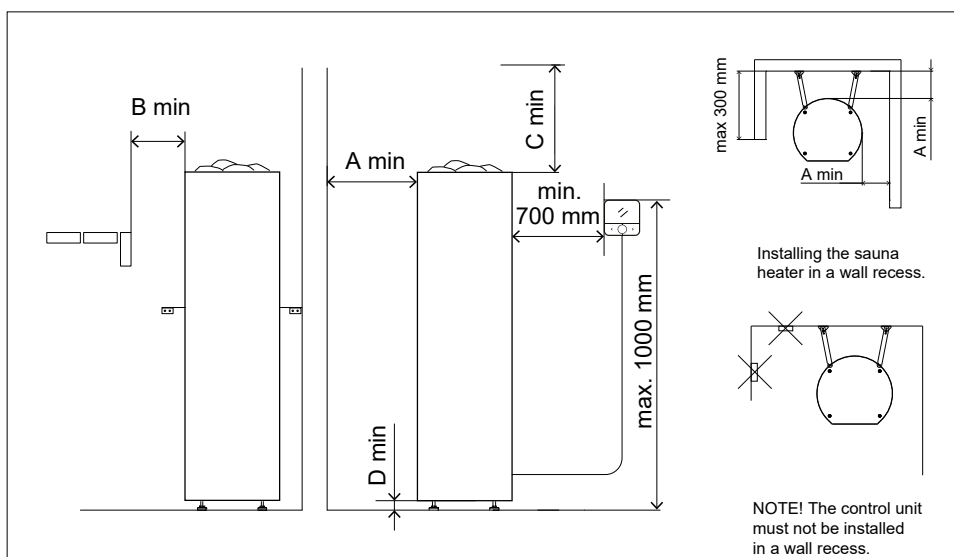

Figure 4. Minimum safety distances
A heater guard can be built around the sauna heater if necessary, and its design must always comply with the minimum safety distances from combustible materials as specified in the instructions (Figure 4 and Table 2).
- The sauna heater may also be installed in a wall recess. See Figure 4.
- The control unit must not be installed in a location where the temperature exceeds 80°C maximum temperature. If the control unit is installed in the steam room, the installation location must be at least the minimum protection distance (0.7 m) from the heater and at most one meter (1 m) above the floor (see Figure 4). Power supply cables and the control unit's cable should not be installed next to each other to avoid interference.